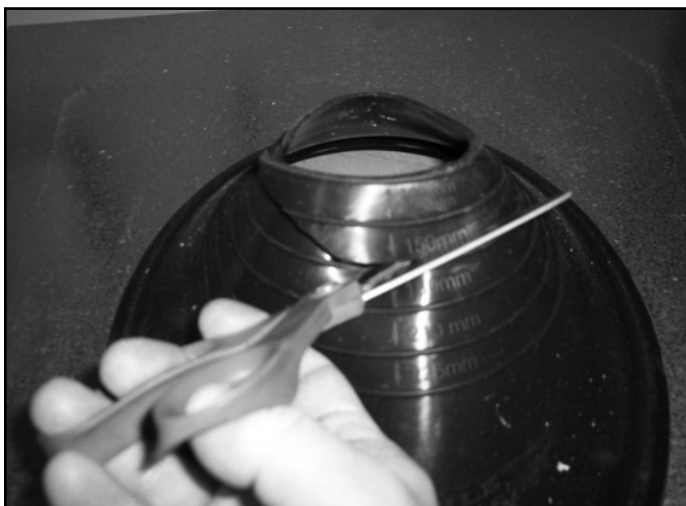

Figure 10.18 Trim Rubber Boot
- Trim the rubber boot (using scissors or a utility knife), cutting along the marked measurement lines. See Figure 10.18. Use the 150 mm line for SLP, 210 mm for DVP.